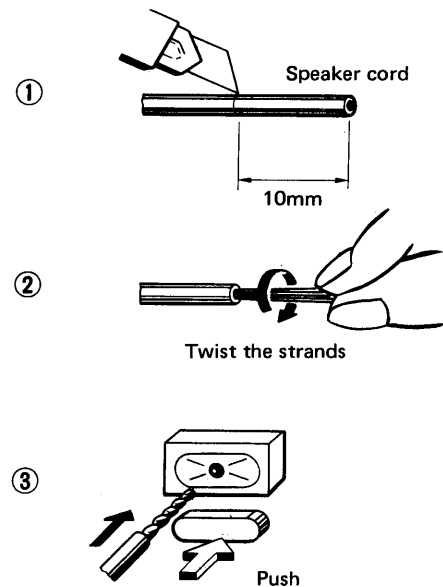

Fig. 2
Processing and connecting the speaker cords (Fig. 2)
1. Cut off the covering of the speaker cords as shown in Fig. 2- ①.